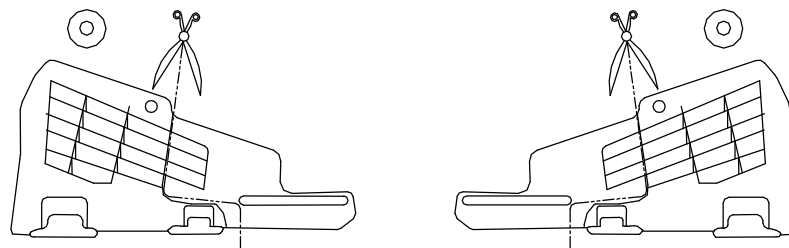

Fig. 2
3. Disassemble plastic covers and cut out fragments according to figure 2.
4. Put side brackets (pos. 4 and 5) to chassis members and fix loosely through holes A and B (**Espace**) or A and C (**Grand Espace**) using bolts M10x110mm (pos. 11) and M12x70mm (pos. 9). Use distance sleeves pos. 6 and 7 and big washers pos. 14 and 15 as shown on the figure.
5. Between installed side brackets put main bar of the towbar (pos. 1) and fix it using bolts M12x40mm (pos. 10).
6. Fix body of the automat (pos. 19) using bolts M12x25mm (pos. 8) from accessories. Place tow-ball (pos. 2) according to supplied instruction.
7. Fix the socket plate (pos. 3) as shown on the drawing.